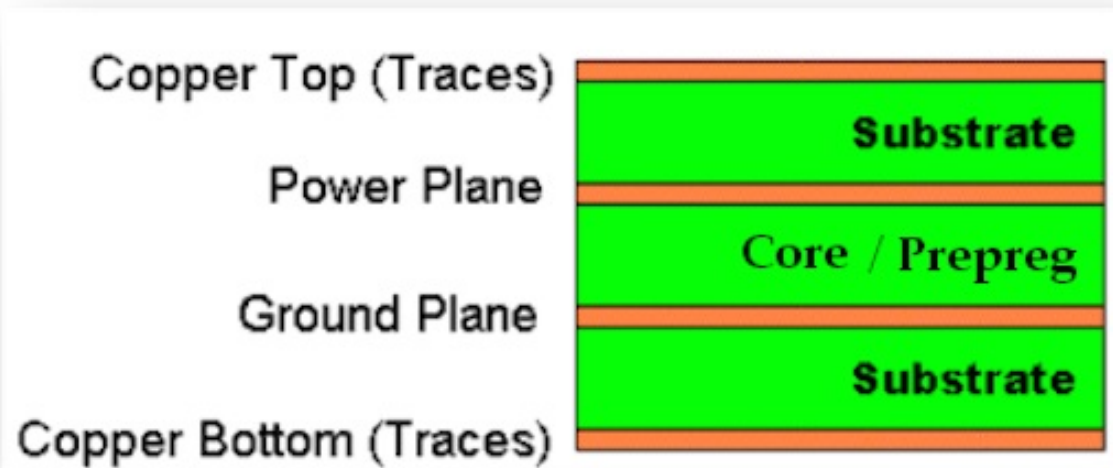

Figure 5: Four-layer PCB with power and ground planes
Plane – A large portion of the copper foil that is remaining on the PCB for a signal connection that attaches to many components. This is a layer where little copper is etched away. Power and ground signals are typically connected to a plane, since the power and ground needs to route to many components on the PCB. Since a plane has a lot of copper, and the plane covers a large area, traces can be routed to the plane with an effective lower resistance and inductance from a connection point to the plane. This will create smaller voltage drops (versus placing discrete traces) when the components conduct power and ground current and thus will create a design with lower power dissipation. Also, circuits with power and ground planes will be less likely to radiate electromagnetic (EM) energy, as well as be less susceptible to EM energy (such as 50/60 Hz AC line noise). Figure 5 is an example of a four-layer PCB with power and ground planes: